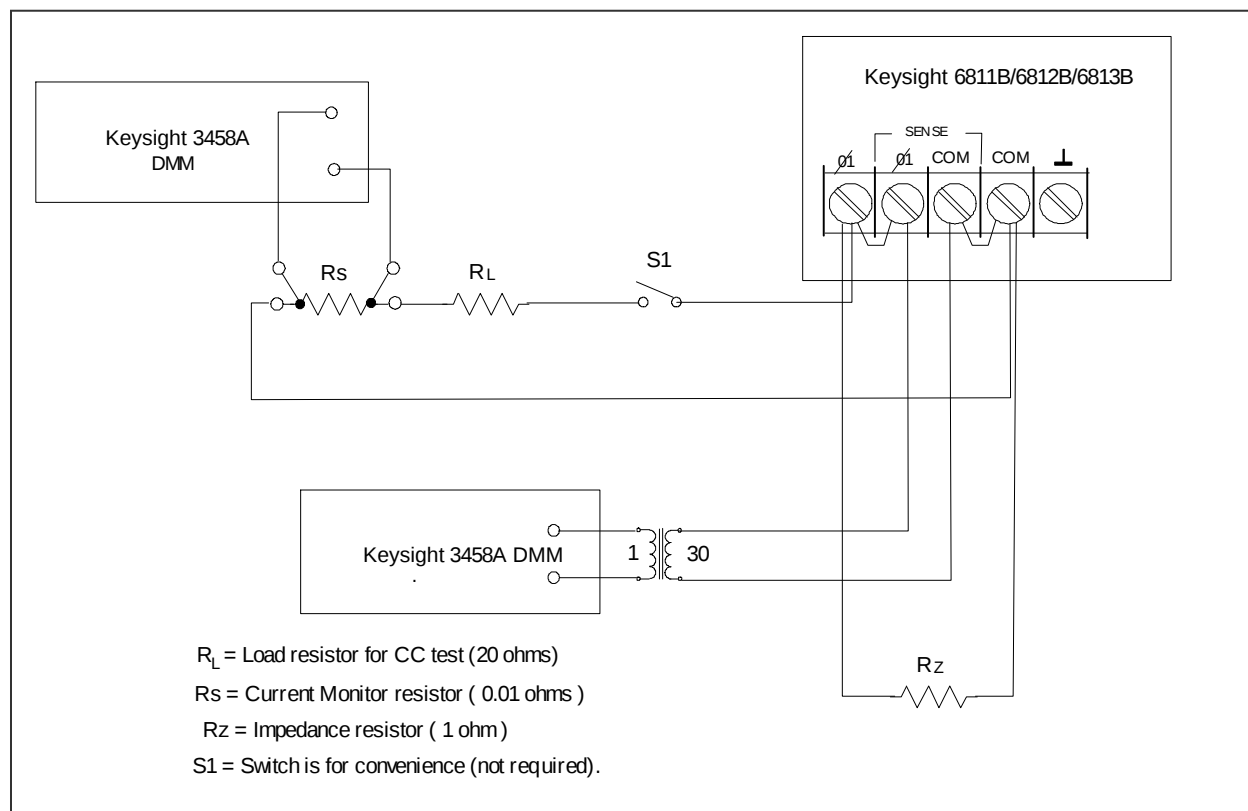

Figure B-1. Verification & Calibration Test Setup
Figure B-1 shows the setup for the tests. Be certain to use load leads of sufficient wire gauge to carry the **full** output current (see Chapter 2).
1. Make sure the ac source is turned off. Connect the DVM and ratio transformer as shown in the test setup in Figure B-1.
1. Turn off the ac source and connect the DVM, the 20 ohm load resistor and current shunt as shown in Figure B-1 with S1 closed. Connect the DVM across the current shunt.
Table B-1 lists the equipment required for calibration. Figure B-1 shows the test setup.